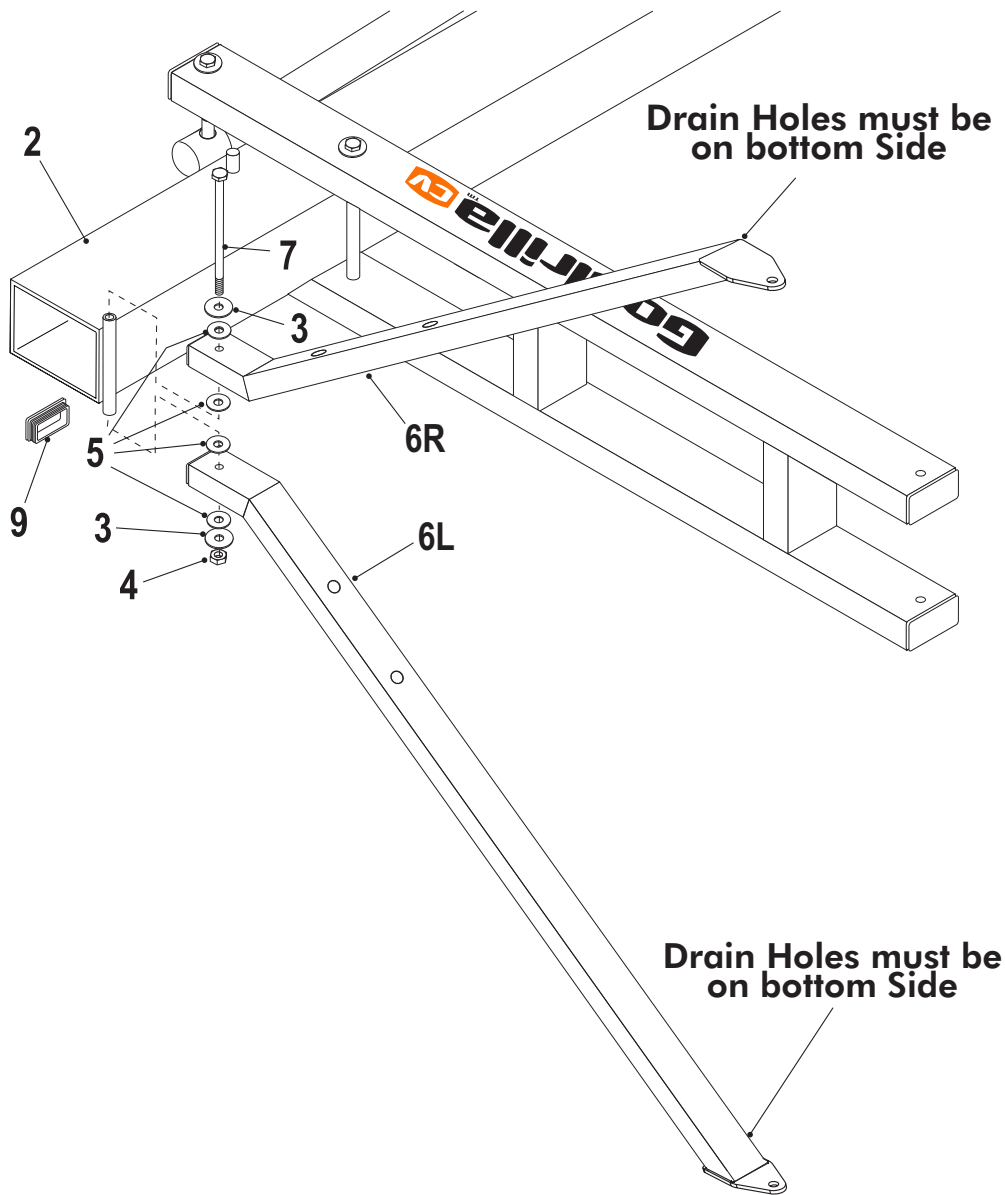

Figure 7
8. Attach Upper Arms (#6L & 6R) to pole (#2), as shown in Figure 7. Using a bolt (#7), two flatwashers (#3), four plastic washers (#5) and hex nut (#4).